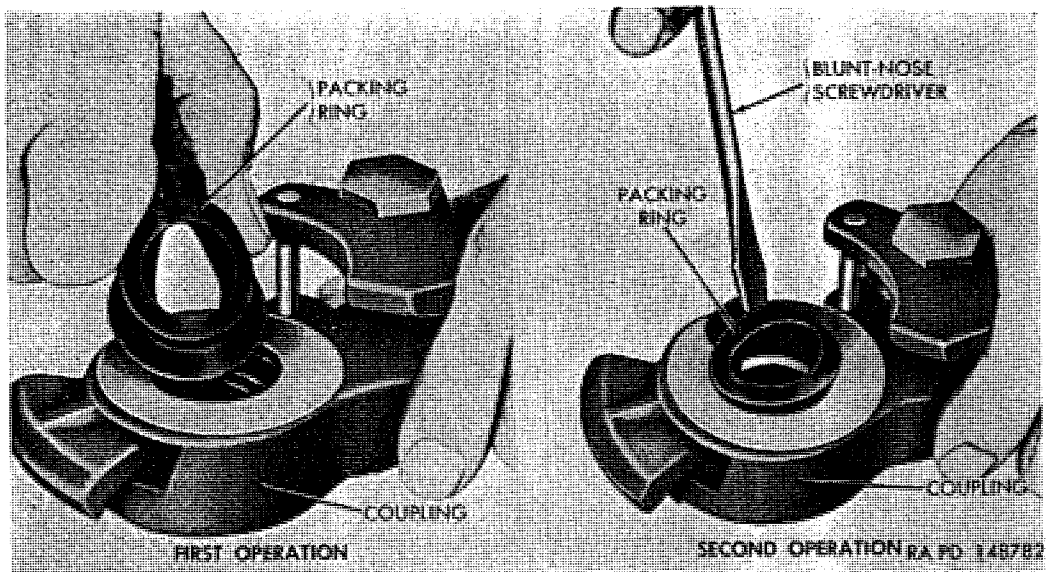

Figure 259. Replacing trailer brake coupling packing ring.
- (1) *Packing ring replacement (fig. 259).* Pry old packing ring out of body with a screwdriver. Thoroughly clean packing ring groove, scraping if necessary to remove all particles of